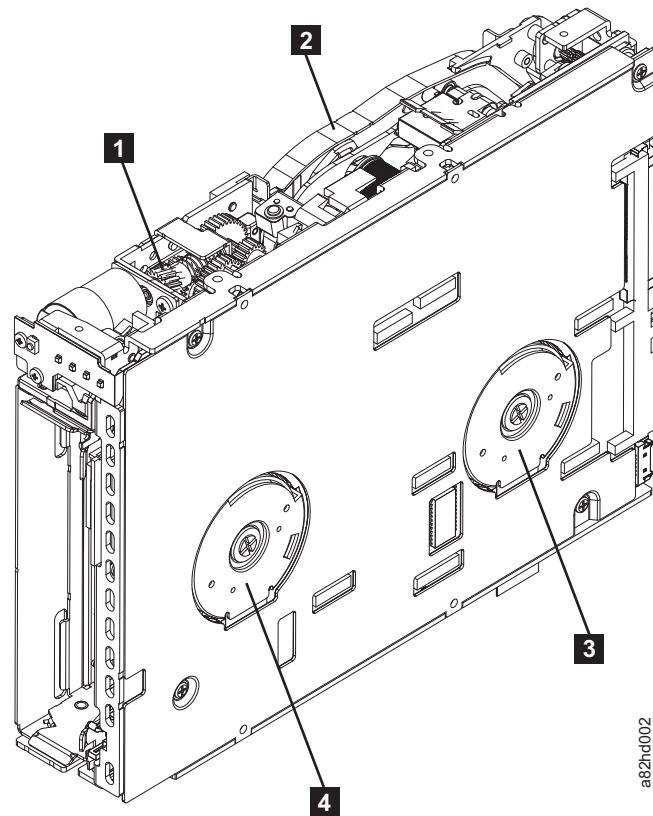

Figure E-11. Rewinding tape into cartridge
2. Begin spooling the tape back into the cartridge by turning the supply reel motor (**4** in Figure E-11) clockwise.
3. Continue spooling into the cartridge until the tape is taut and remains within the flanges of the tape guiding rollers. Ensure that you do not stretch the tape. Continue spooling until all tape is removed from the takeup reel (**3** in Figure E-11).